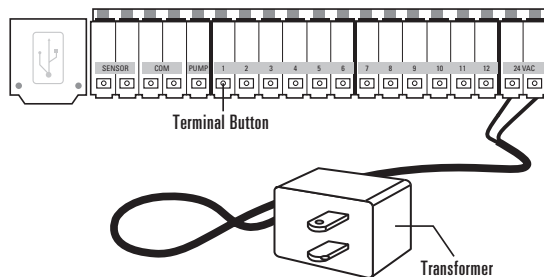

Figure 4: Connecting the Transformer
- Find the two sockets at the bottom of the docking port labeled “24VAC.” (See Figure 4)